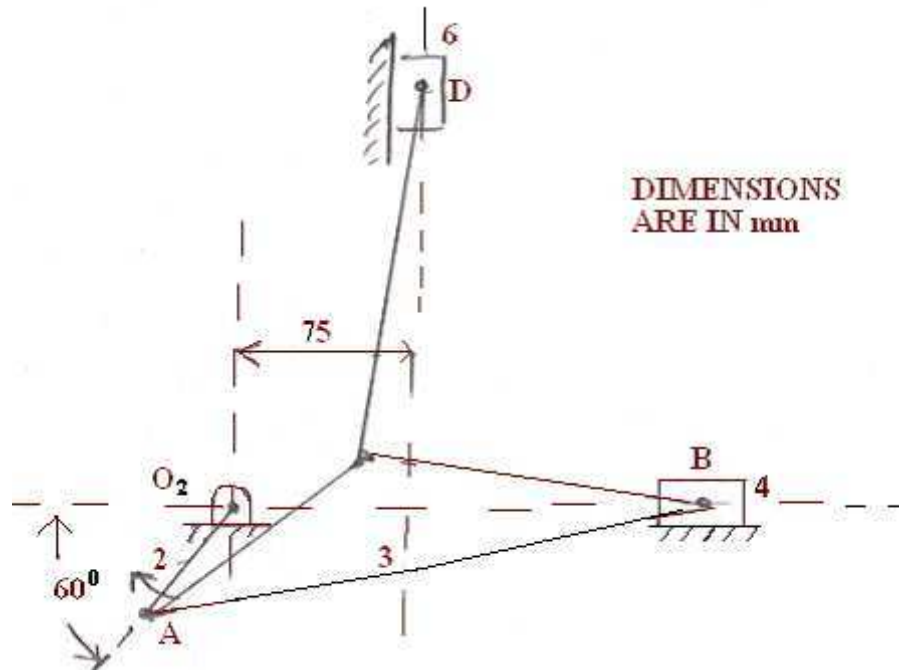

Figure 4
4. Find the velocities of points B, C, and D of the double-slider mechanism shown in the figure 4 if crank 2 rotates at 42 rad/s cw. Use instant centre method.